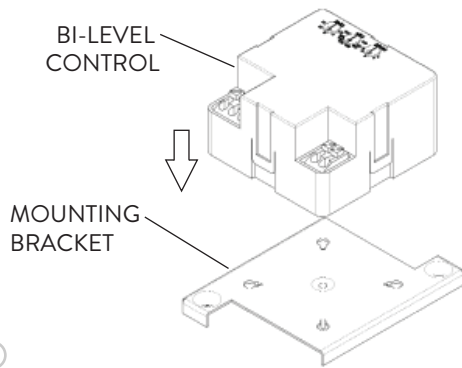

FIG. 19
- The Mounting Bracket is pre-installed and secured to the inside of the FTFS/2 fixture. The Bi-Level Occupancy Control fits directly on the Mounting Bracket (Fig. 19).